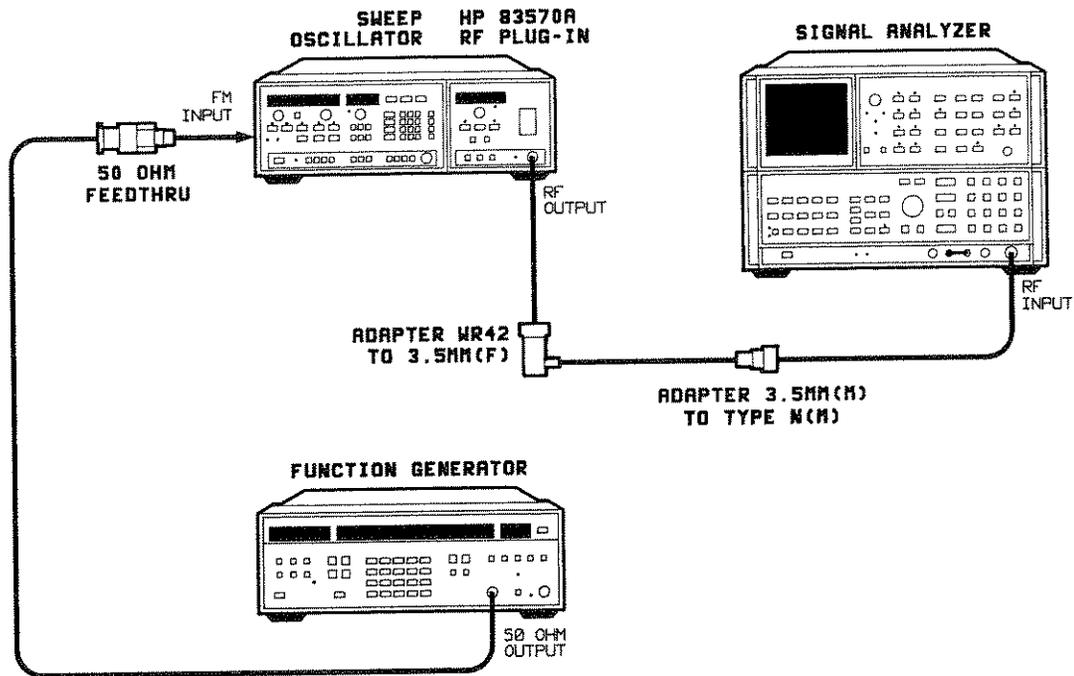

Figure 4-8. 100 Hz External Frequency Modulation Test Setup
2. Connect the equipment as shown in Figure 4-8. Turn all instruments on and allow them to warm-up for 30 minutes.